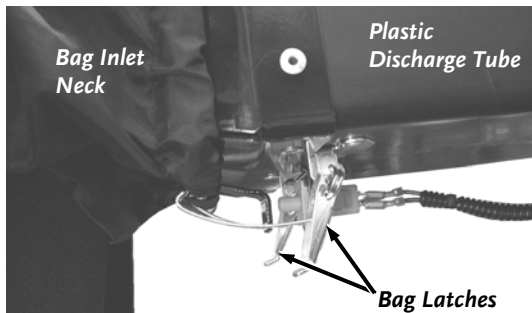

Figure 17
19. Slip the Bag Inlet Neck over the Discharge Tube (**Figure 17**).